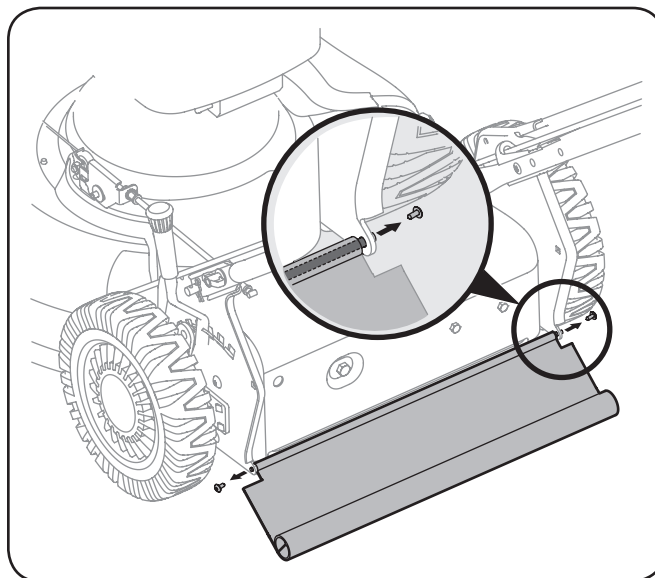

Figure 6-2
1. To remove rear flap, lift rear door, remove screw, and press flap in on either side to remove from hole. See Fig. 6-2.